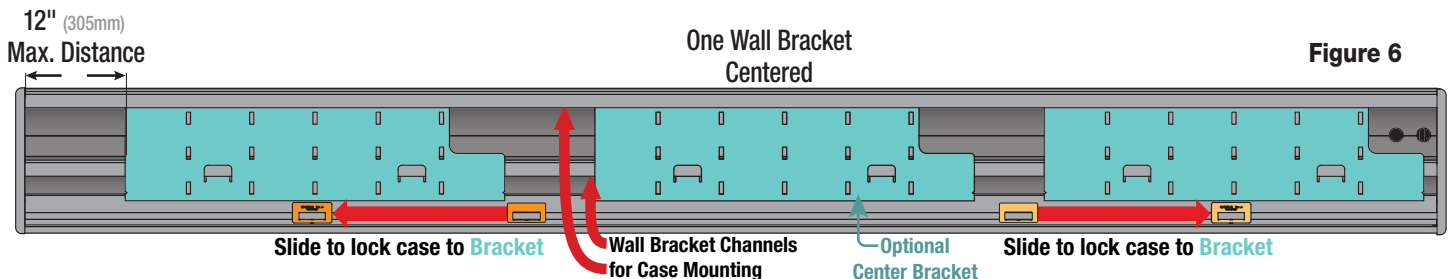

Figure 6
5. Once the case is settled on the mounting brackets, slide the **Bracket Locks** to the center of each **mounting bracket** (see Fig. 6) and secure set screw on the lock.
6. Once the case is settled on the mounting brackets, slide the **Bracket Locks** to the center of each **mounting bracket** (see Fig. 6) and secure set screw on the lock.